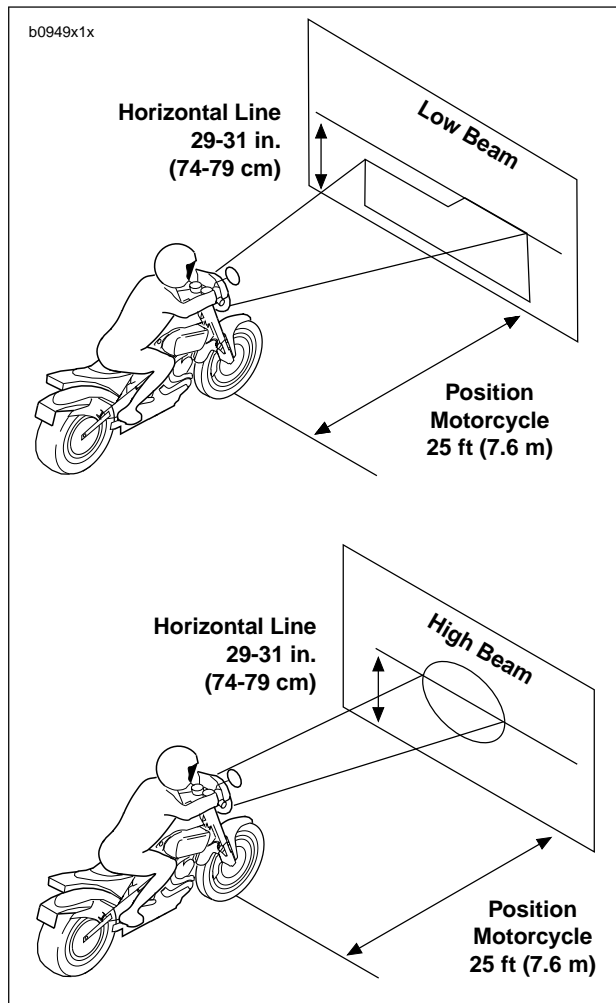

Figure 1-53. Checking Headlight Alignment
2. See Figure 1-53. Position motorcycle 25 ft (7.6 m) away from a screen or wall by measuring the distance from the front axle to the screen/wall.
- b. Check that the correct pattern of light is a double rectangular pattern and is aligned with the horizontal line as shown in Figure 1-53.
- b. Check that the correct pattern of light is a circular pattern and is centered on the horizontal line as shown in Figure 1-53.